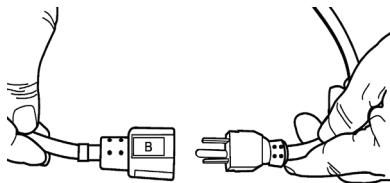

figure 18
4. Connect electronic control box plug and blower plug together (figure 18).
3. Connect electronic control box plug(s) and the appropriate pump and/or blower plug together (figure 18).